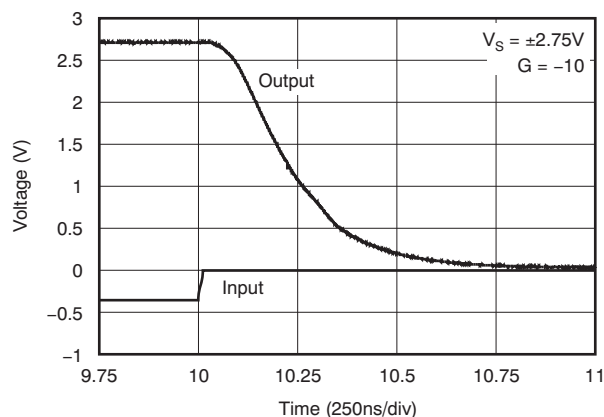
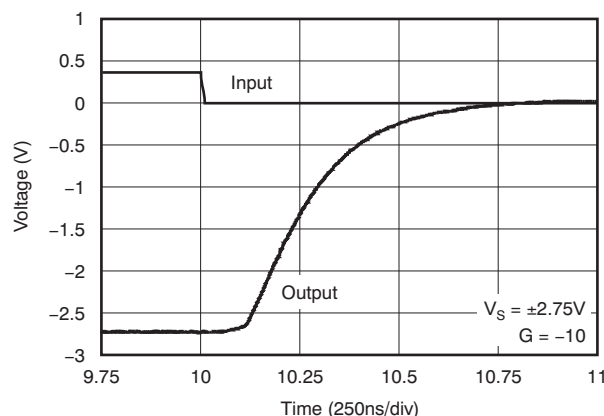

Figure 34. Positive Recovery Time
Figure 35. Negative Recovery Time
Overload recovery time is the time it takes the output of the amplifier to come out of saturation and recover to the linear region. Overload recovery is particularly important in applications where small signals must be amplified in the presence of large transients. Figure 34 and Figure 35 show the positive and negative overload recovery times of the OPA320, respectively. In both cases, the time elapsed before the OPA320 comes out of saturation is less than 100ns. In addition, the symmetry between the positive and negative recovery times allows excellent signal rectification without distortion of the output signal.
- Changed Figure 34 14
- Changed Figure 35 14